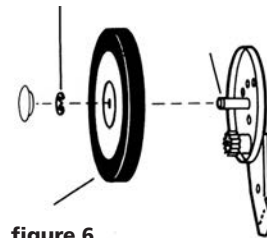

figure 6
As you follow the instructions below, refer to figure 6 for more information.
- Remove the "E" ring, wheels and pinion from both sides of the mower (refer to figure 6).